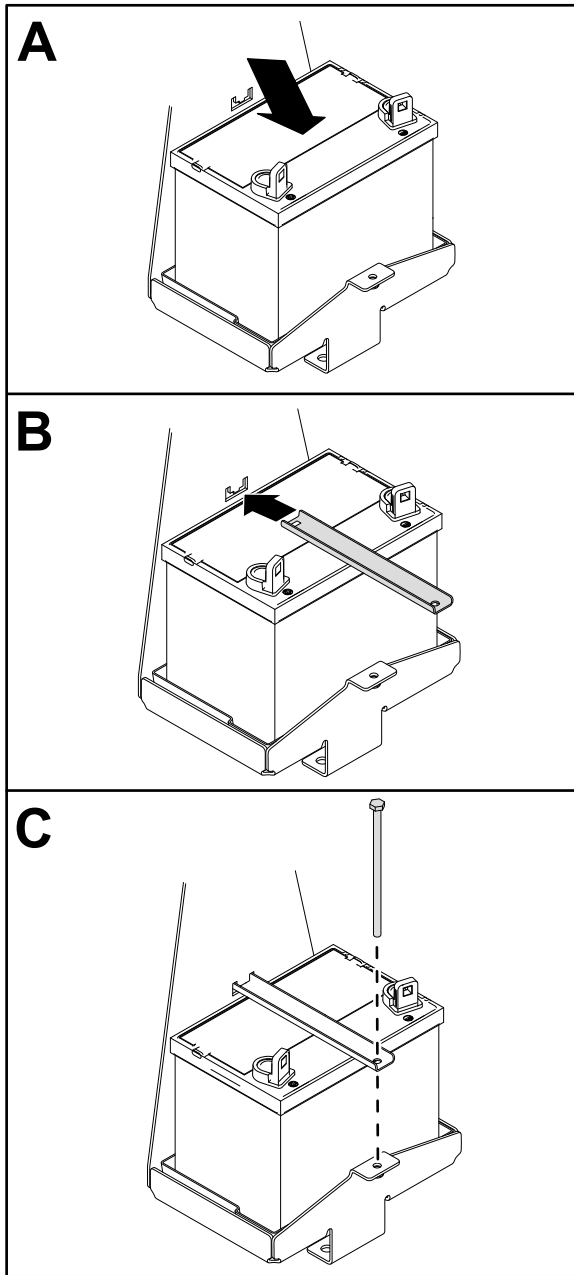

Figure 39
1. Install the battery as shown in Figure 39.